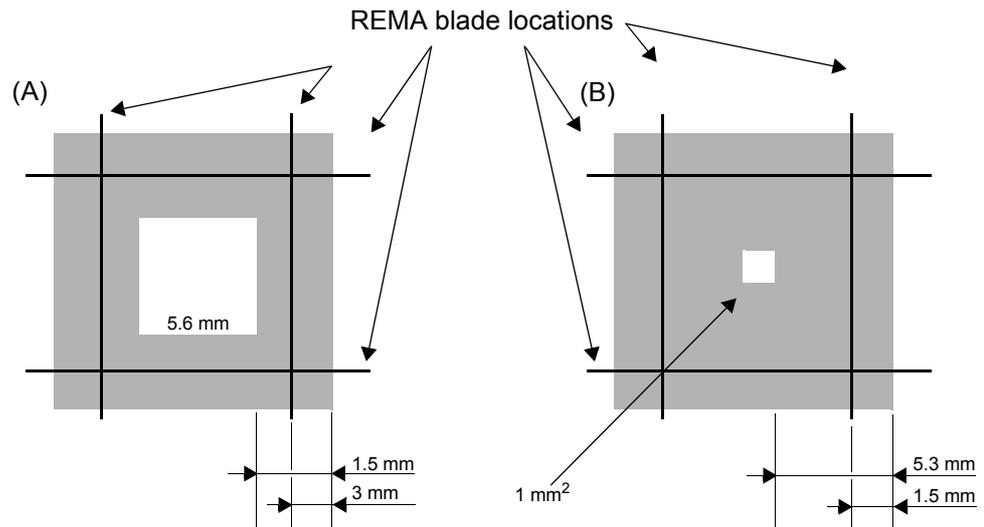

Figure 7.7 Examples of normal and extended image borders
The minimum REMA window size for the PAS 5500/2xx series is 5.6 mm (reticle level). When smaller images must be printed the chromium border around these images must be extended to form the required window size. Examples are shown in Figure 7.7, where (A) is the normal image border and (B) is an extended image border.